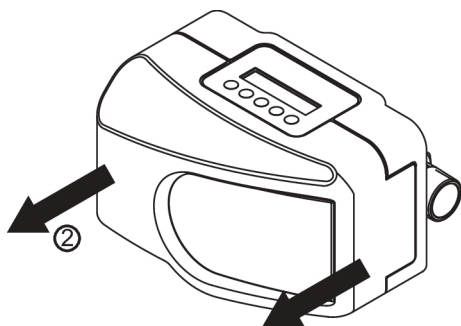

Fig. 7: Take off the casing in a forward direction
2. Take off the casing in a forward direction (see Figure 7).